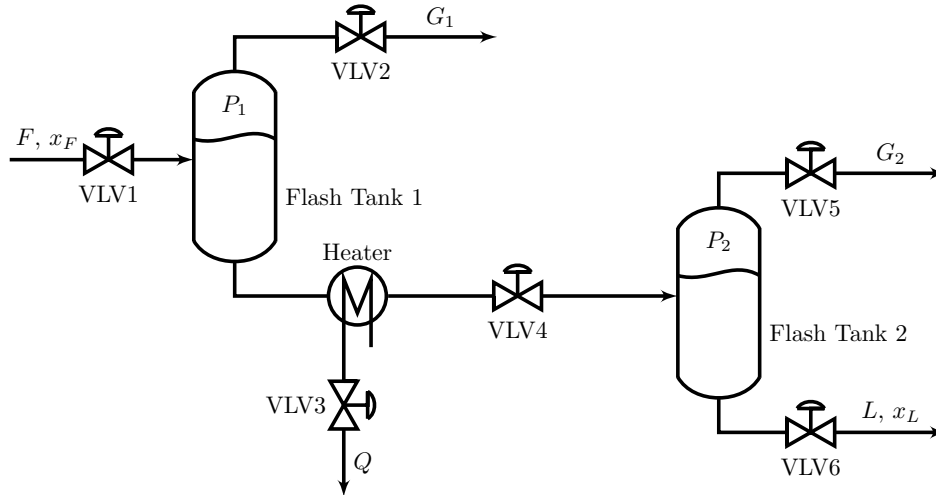

Figure 1: Two flash tanks in series
Consider two flash tanks in series, as shown in Fig. 1, where the feed stream F is separated into gas product G_1 and liquid product L_1 in the first tank at pressure P_1 . The liquid product of tank 1 is further heated, and then flashed in the second tank to gas product G_2 and liquid product L .
- (b) Propose a control structure based on feedback. Draw the proposed control structure in Fig. 1 (Show the MVs-CVs pairing on the flowsheet).